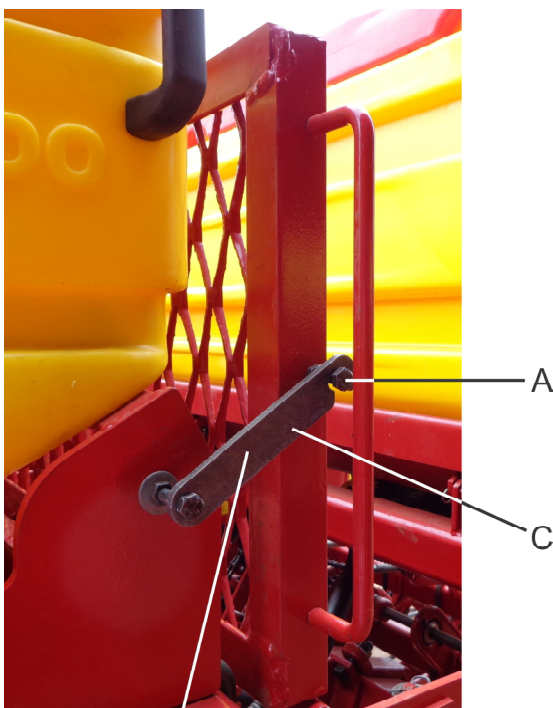
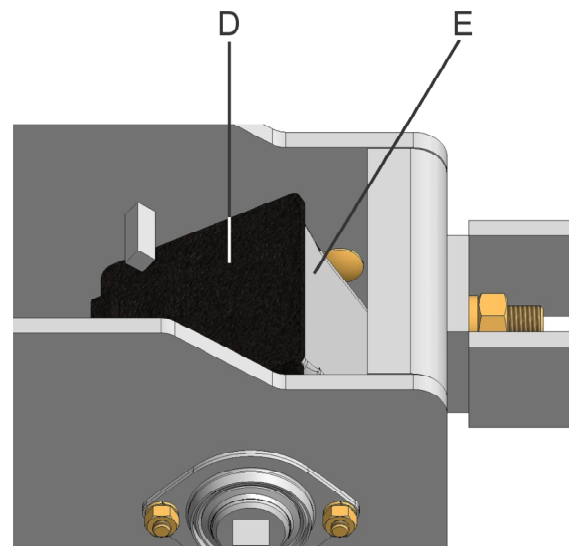

fig. 35
fig. 36
Do the periodical maintenance and lubricant in the gear boxes from pantographic lines. To have access to the gear boxes (D) (fig. 36), lift the footboard (A) (fig. 35) and lock it through the screw (C) with the lock (B). Remove the lid of the box (E) (fig. 36) and the needed maintenance.